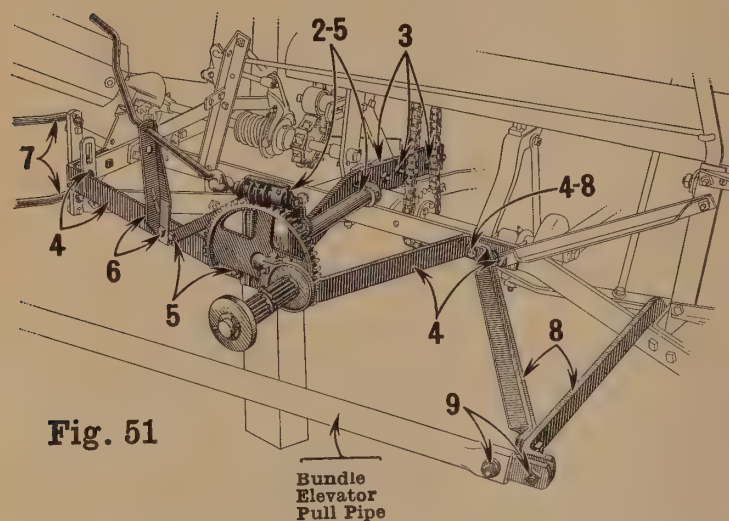

Fig. 51
If **R. H. Main Wheel Extension** is used, attach before proceeding with these directions—see Figs. 51 and 52.
2. (Fig. 51.) Remove R. H. Main Wheel with axle assembly.
3. (Fig. 51.) Bolt frame extension cross sill to front of main frame center cross sill.
4. (Fig. 51.) Bolt frame extension side sill to main frame and to extension cross sill with longer bolts furnished.
5. (Fig. 51.) Insert L. H. end of axle into axle bracket and bolt axle bracket to frame extension side sill—brace goes to **rear** of axle bracket.
6. (Fig. 51.) Slip raising crank support post with link over crank and bolt post to outside of frame extension side sill.
7. (Fig. 51.) Replace bundle elevator paralleling rods with shorter rods furnished.
8. (Fig. 51.) Bolt bundle elevator pull pipe hitch bar to **rear** of main frame **front** cross sill—angle brace bolts to rear of hitch bar and to main frame.
9. (Fig. 51.) Remove connecting bar from front end of bundle elevator pull pipe and replace with special (shorter) bar furnished—bolt connecting bar to hitch bar—trunnion goes in hitch bar.